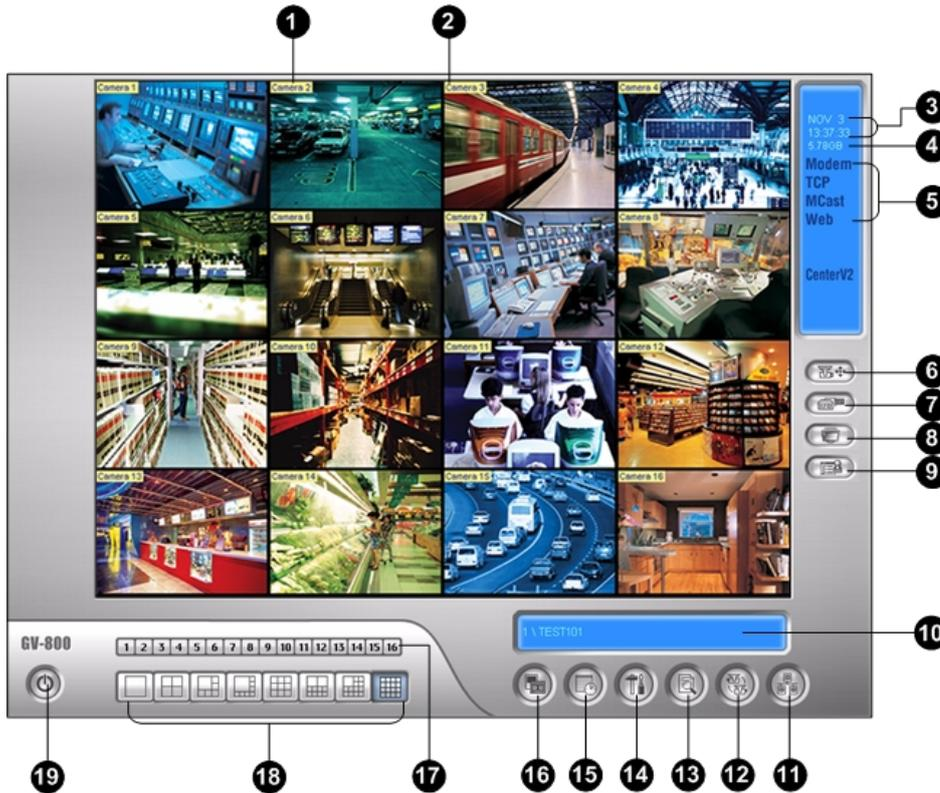

Figure 1-2
Click the **Configure** button (No.14, Figure 1-2), point to **General Setting** and select **System Configure**. You may configure cameras and global recording parameters in this dialog box. Changes made to the **General Setting** tab would apply to all available cameras attached to the system. In the **Camera Record Setting** tab, you can configure each individual camera. In the **I/O Device** tab, you can add and configure I/O devices. In the **HotLine/Network** tab, you can configure the system for connection to network or mobile.
- ⊙ **Monitor All:** Allows you to monitor all cameras and I/O (if available) at system startup. It is the same as to manually click **Monitor** button (No. 16, Figure 1-2) and select **Start All Monitoring**. (For details, see *Start/Stop Monitoring* later in this chapter).
- ⊙ **Schedule Monitor:** Allows you to monitor cameras by schedule. Alternatively you may click **Schedule** button and select **Schedule Start** (No. 15, Figure 1-2). Refer to *Recording Schedule* later in this chapter.
- ⊙ **I/O Monitor:** Allows you to monitor all I/O devices. Alternatively you may click the **Monitor** button (No. 16, Figure 1-2), and then select **I/O Monitoring**.
- **Multicast Server:** Allows connection to IP Multicast (one of the remote application) at system startup. (Or click the **Network** button (No. 11, Figure 1-2) and select **Multicast Server**.)
- **TCP Server:** Allows connection to Remote View (another remote application) by TCP. (Or click the **Network** button (No. 11, Figure 1-2) and select **TCP Server**.)
- **WebCam Server:** Allows connection to WebCam Server at startup. (Or click the **Network** button (No. 11, Figure 1-2) and select **WebCam Server**.)
- **Modem Server:** Allows connection to Remote View by a modem. (Or click the **Network** button (No. 11, Figure 1-2) and select **Modem Server**.)
- **Connect to VSM:** Allows connection to VSM Server (Or click the **Network** button (No. 11, Figure 1-2) and select **Connect to VSM**.)
- **Twin Server:** Allows connection to Twin Server at startup. (Or click the **Network** button (No. 11, Figure 1-2) and select **Twin Server**). For more details, see *Twin DVR System* in Chapter 10.
- **Connect to CenterV2:** Allows connection to CenterV2. (Or click the **Network** button (No. 11, Figure 1-2) and select **Connect to CenterV2**.)
1. Click the **Configure** button (No.14, Figure 1-2), point to **General Setting**, and then select **System Configure**.
4. To switch between the mini and normal view, click the **Configure** button (No.14, Figure 1-2), point to **A/V Setting** and select **Mini-View Switch**.